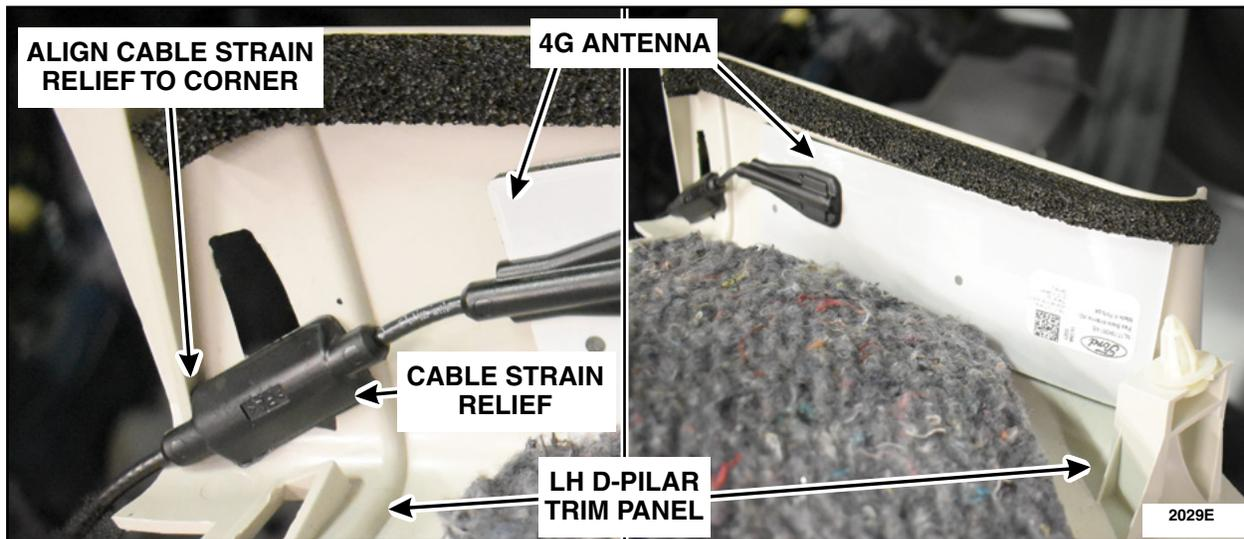

FIGURE 3
5. Install the *new* 4G antenna. See Figure 3.